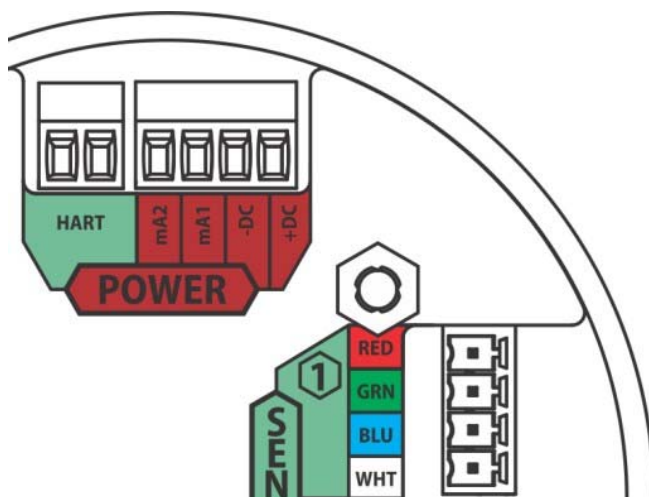

Fig. 20A Analog, HART, and Sensor Inputs
- (1) Remove the TG5000 enclosure cover.
- (2) Pull on the metal bail, removing electronics, to expose sensor and power connections.
- (3) Remove the red colored power connector.
- (4) Use a small, flat head screwdriver to open the analog wire entries on the connector.
- (5) Connect the analog output wires. Wire locations are marked on the cover plate (see Fig. 20A):